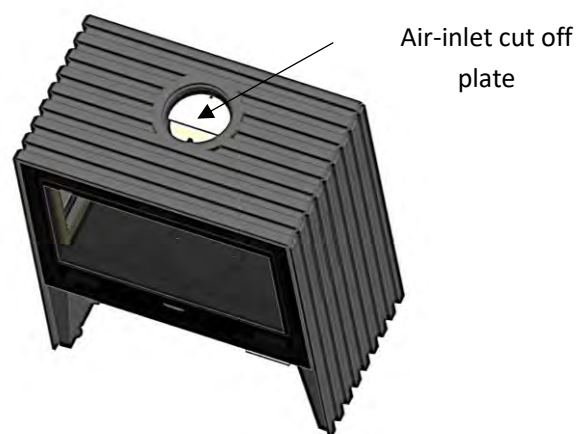

FIG. 6
- When installing the stove, observe the necessary safety distances for the oven and chimney from combustible surfaces (wooden or papered walls, wooden floors...). Safety distances must be respected when the lining on walls or nearby areas may be damaged or deformed by temperature (varnish, paint, PVC...). Fig. 6